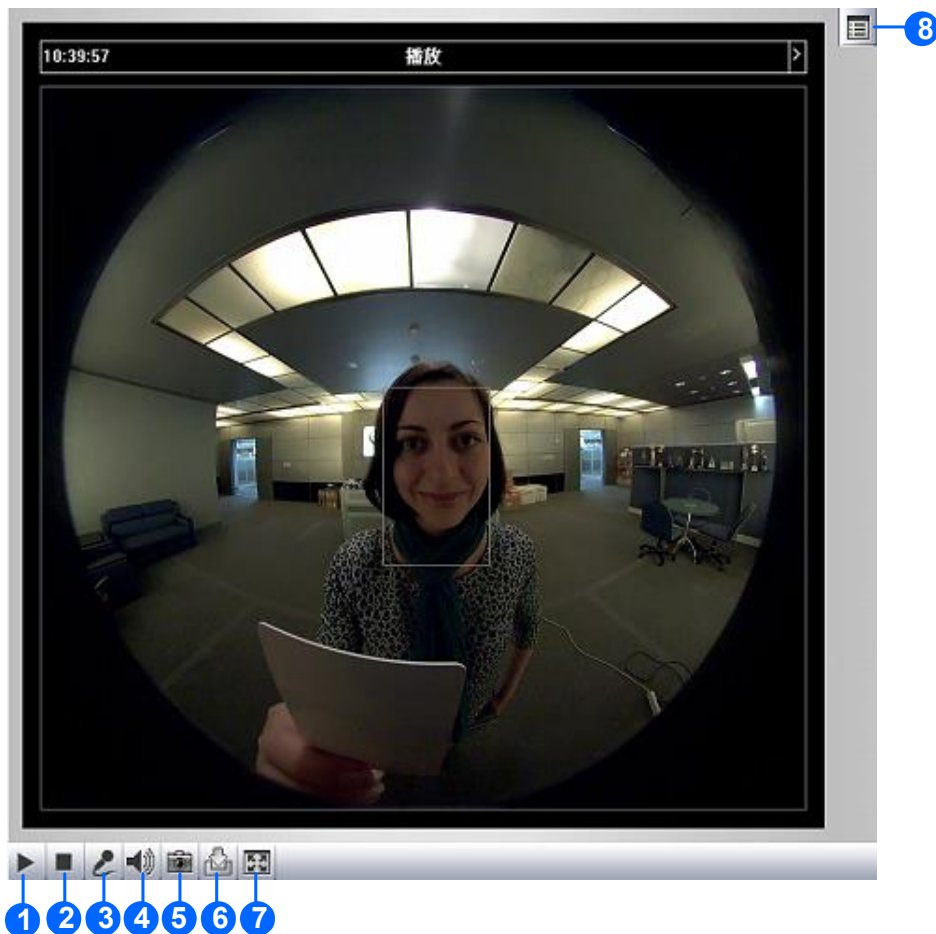

Figure 3-3
4. The live web page, similar to the image in *Figure 3-3*, is now displayed on your browser.
1. Click the **Snapshot** button (No. 5, Figure 3-3). The Save As dialog box appears.
1. Click the **File Save** button (No. 6, Figure 3-3). The Save As dialog box appears.
4. To stop recording, click the **Stop** button (No. 2, Figure 3-3).
For this function to work, click the **Show System Menu** button (No. 8, Figure 3-3), and select **Alarm Notify**. In the pop-up dialog box, configure the following settings.
You can enable the microphone and speaker for two-way audio communication and set the number of frames to keep for live view buffer. Click the **Show System Menu** button (No. 9, Figure 3-3), and select **Video and Audio Configuration**.